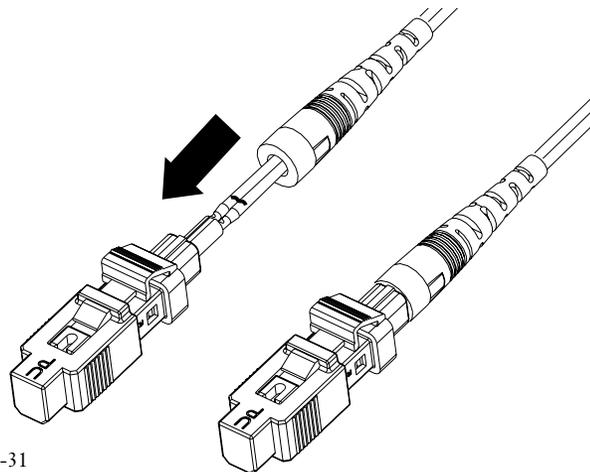

Figure 3-31
**3.7-11** Slide the boot up the back of the connector until it reaches the cam (Figure 3-31).